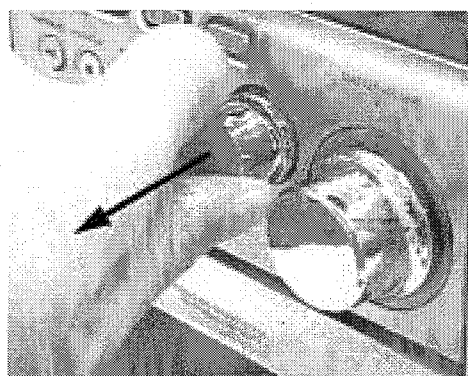

Figure 9
- 2) The Knob Bass/Knob Treble (pos 140) can be removed by pulling it out in the direction as shown in Figure 9.